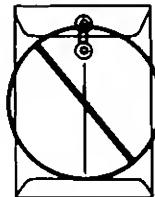

Figure 1
- Envelopes with clasps, snaps or tie strings (See figure 1)